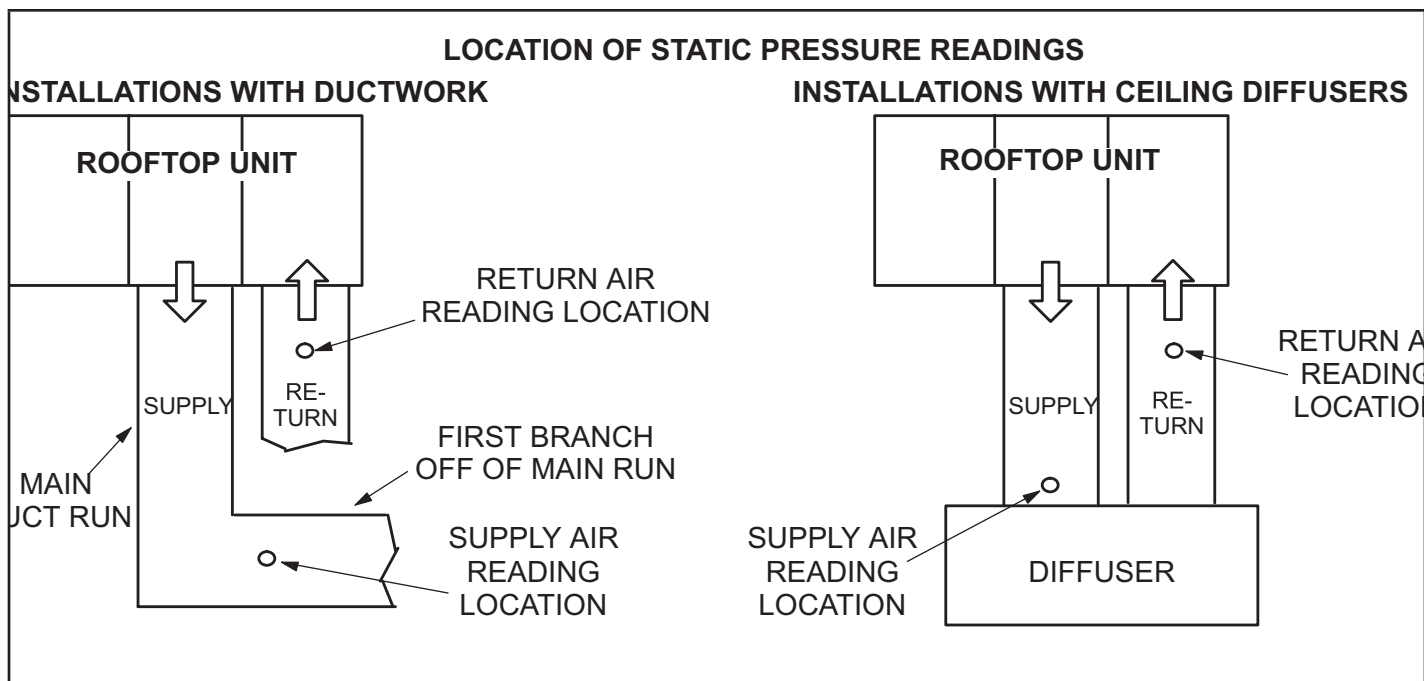

FIGURE 13
2. With all access panels in place, measure static pressure external to unit (from supply to return). Blower performance data is based on static pressure readings taken in locations shown in FIGURE 13.